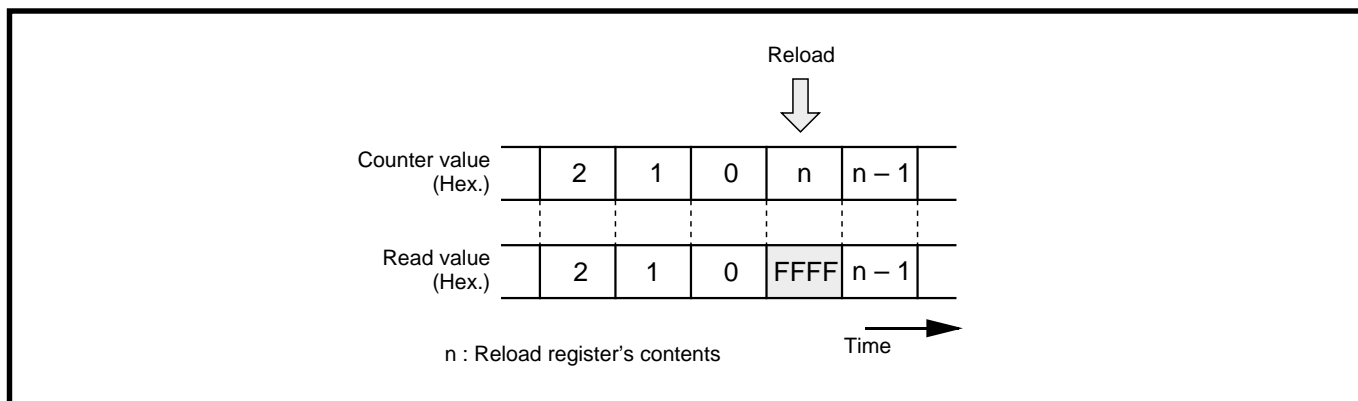

Fig. 7.3.6 Reading timer Ai register
1. By reading the timer Ai register, the counter value can be read out at arbitrary timing. However, if the timer Ai register is read at the reload timing shown in Figure 7.3.6, the value "FFFF₁₆" is read out. If reading is performed in the period from when a value is set into the timer Ai register with the counter stopped until the counter starts counting, the set value is correctly read out.